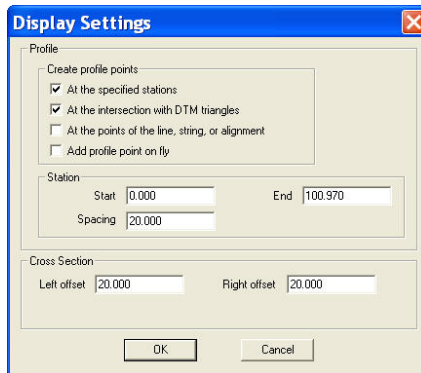

Figure 13-80. Display Setting Dialog Box
- Right-click the mouse to display the context menu and select View Section. The *Display Settings* dialog box appears (Figure 13-80).